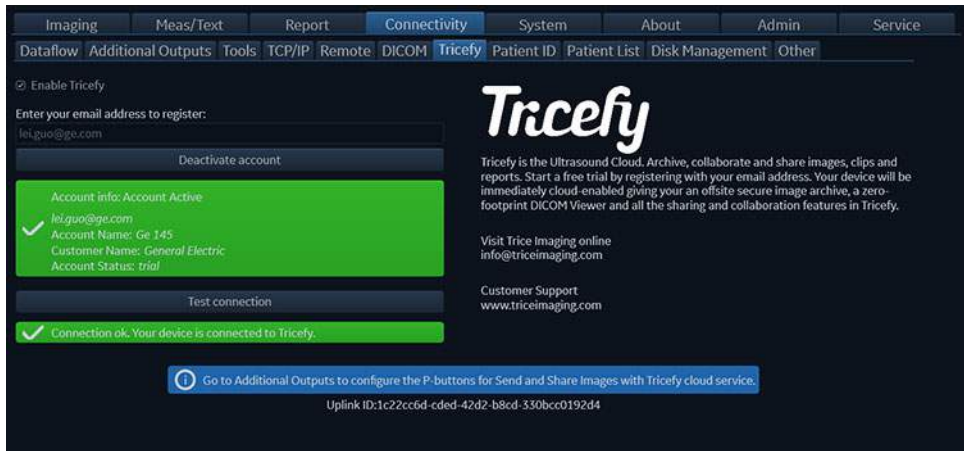

Figure 10-46. The Tricefy Screen
3. Select the **Connectivity** category and the **Tricefy** subgroup. The *Tricefy* screen is displayed (see Figure 10-46).
- After the account is successfully registered, press the **Test Connection** button. The account information is displayed, indicating account name, customer name and account status (see Figure 10-46).